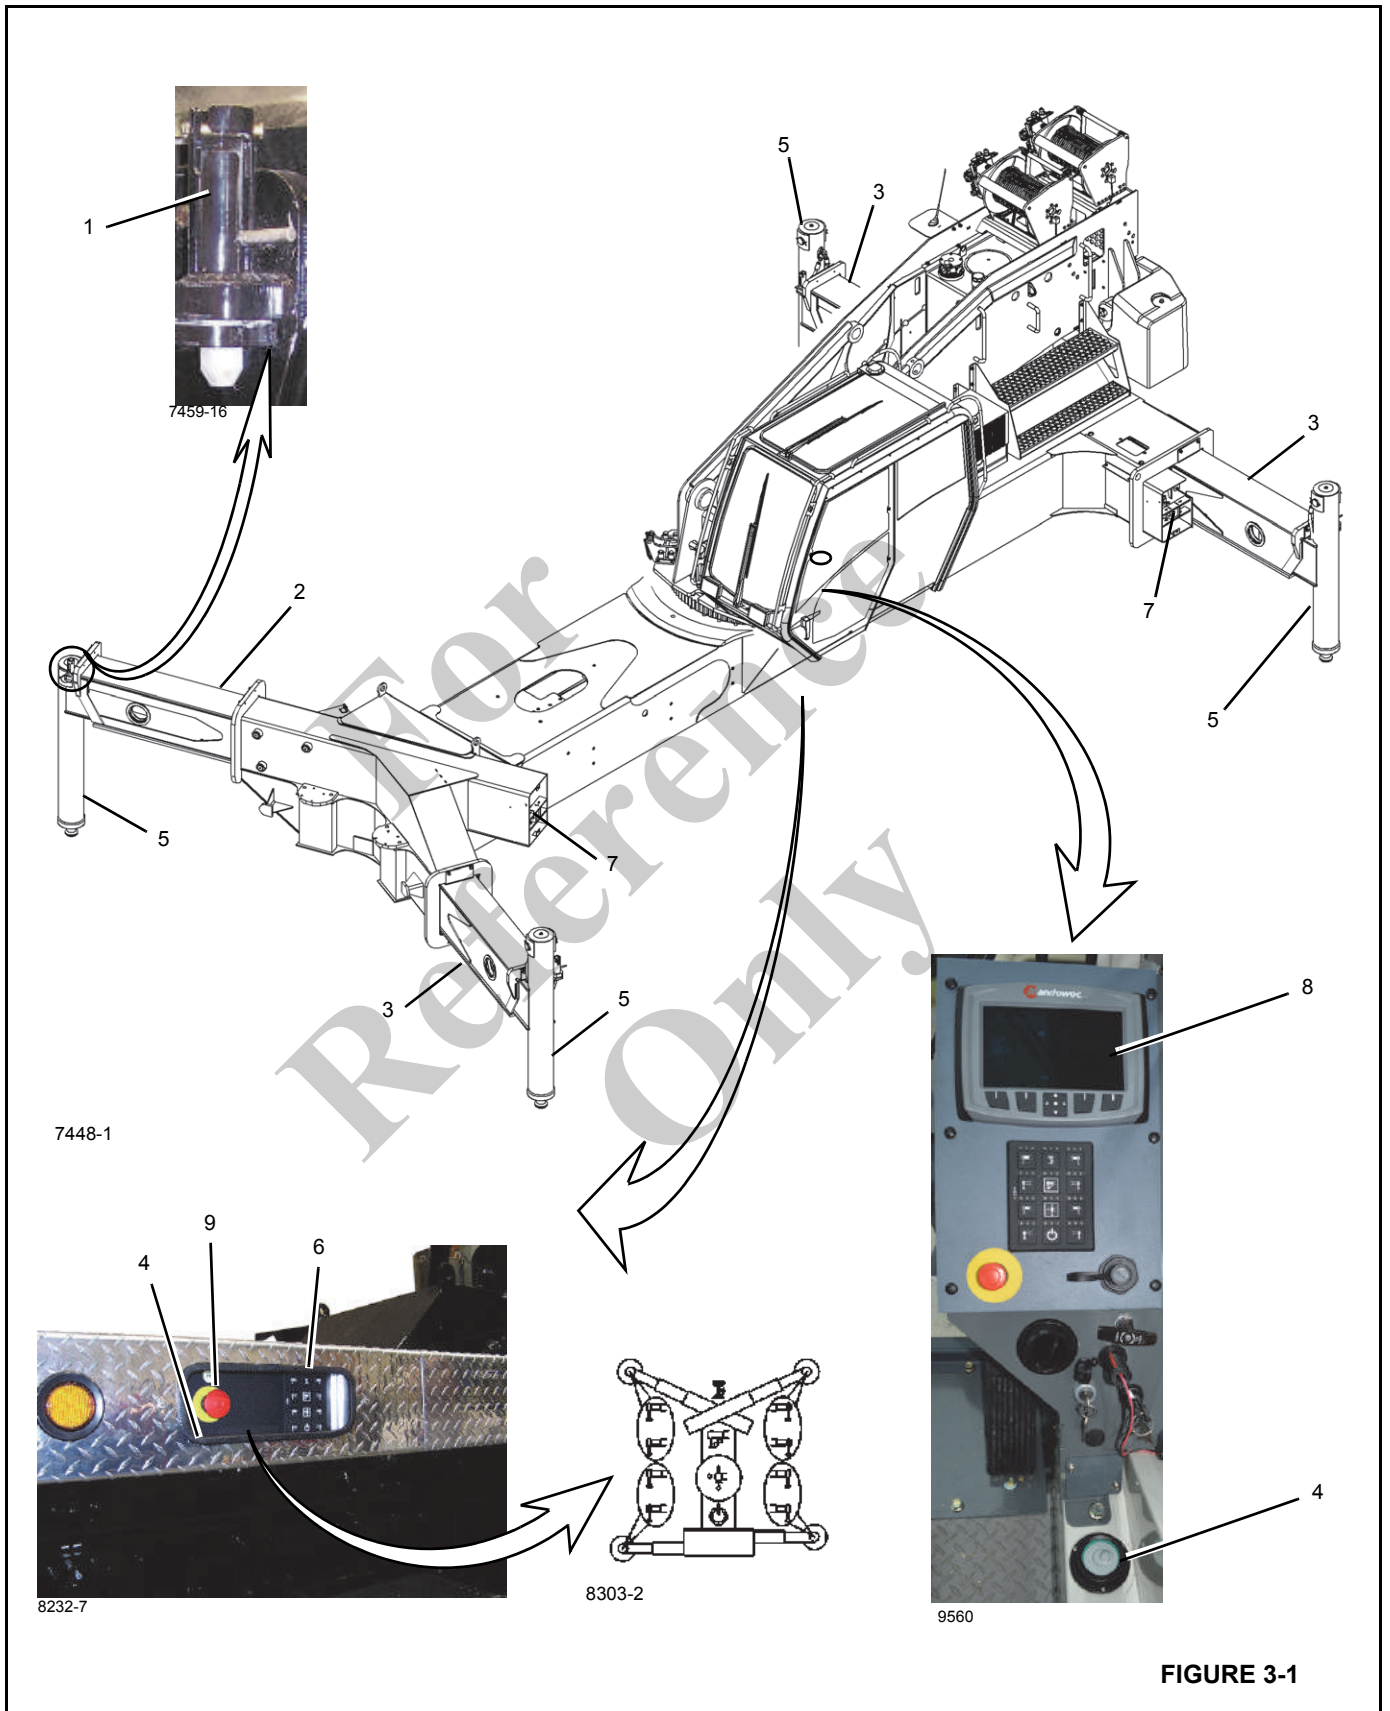
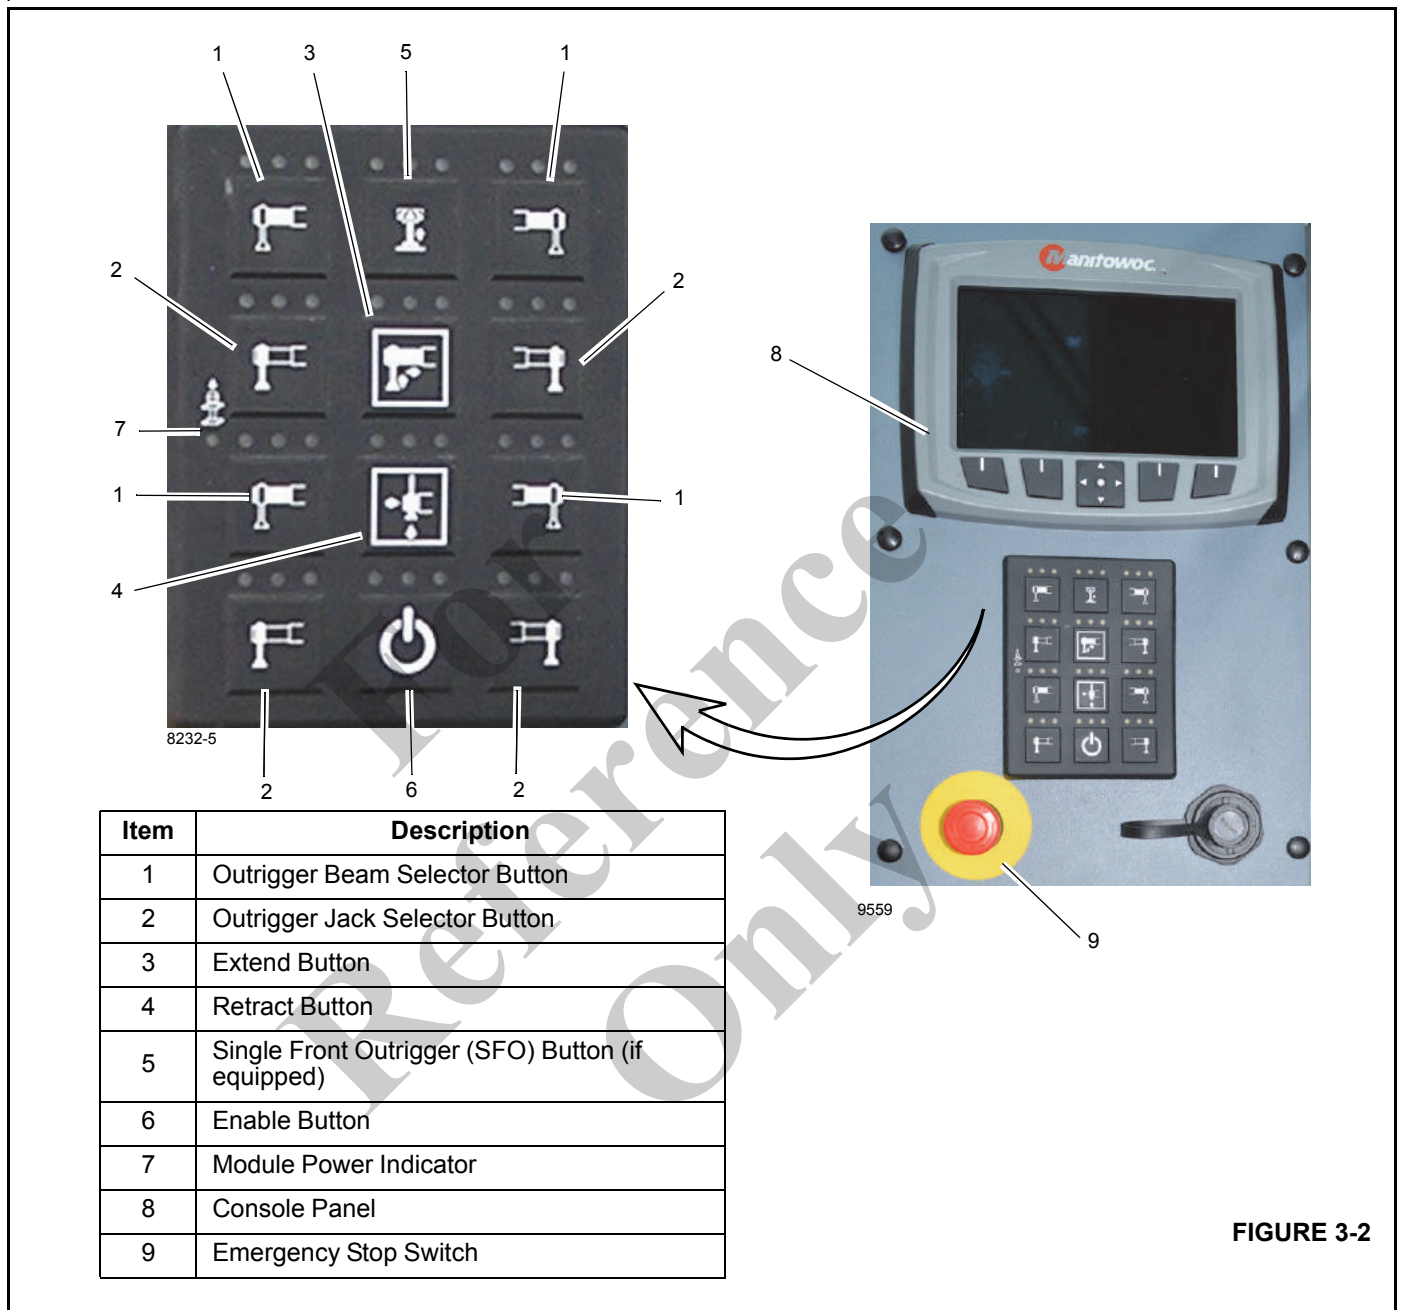

FIGURE 3-1
FIGURE 3-2
The outriggers can be operated from three locations, including a controller located (Figure 3-2) on the crane cab console and two ground station control panels located on the left and right sides of the carrier decking. Each controller contains the control buttons for extending and retracting the outrigger beams, for raising and lowering the outrigger jack cylinders and for raising and lowering the single front outrigger (SFO), if equipped.
The cab outrigger control panel (Figure 3-1) is located on the superstructure cab front console panel (8) and is used to control the outriggers from inside the cab. The control panel contains a touch pad with control buttons and indicators for extending and retracting the outrigger beams, for raising and lowering the outrigger jack cylinders and for raising and lowering the single front outrigger (SFO) - if equipped. The station contains a level indicator and an emergency stop switch. All outrigger functions can be controlled from the cab control panel.
The ground station control panels are located on the left and right sides of the carrier decking (Figure 3-1). Each control station has a touch pad with LED indicators, control buttons for extending and retracting the outrigger beams, for raising and lowering the outrigger jack cylinders and for raising and lowering the single front outrigger (SFO) - if equipped. Each station contains a level indicator and an emergency stop switch.
There is a outrigger control panel located on each side of the crane, as shown in Figure 3-1 and Figure 3-2. The following details apply to both control panels as indicated.
There are four outrigger beam selector buttons (1) located on each outrigger control panel (Figure 3-2).
There are four outrigger jack selector buttons (2) located on each outrigger control panel (Figure 3-2).
The enable button (6) is located on each outrigger control panel (Figure 3-2) and is used in conjunction with the
The extend button (3) is located on the outrigger control panel (Figure 3-2) and is used in conjunction with the enable buttons (6) to control both the outrigger beams or the jacks functions.
The retract button (4) is located on the outrigger control panel (Figure 3-2) and is used in conjunction with the enable buttons (6) to control both the outrigger beams or the jacks functions.
LED indicators display the status of the control button being selected (Figure 3-2) on the outrigger control panel. A LED will illuminate for 5 seconds after a button has been selected.
The module power indicator (7) is located on each outrigger control panel and indicates the outrigger control station panel (Figure 3-2) is activated when a green LED illuminates. The control station can not be activated if the crane is performing another function. (For example: operating the boom.)
The outrigger beam selector buttons (1, Figure 3-2) are used to operate the front or rear outrigger beams. Both sides can be operated from the cab outrigger control panel.
The ground control outrigger beam selector buttons (1, Figure 3-2) are used to operate the front or rear outrigger beam only on the side of the crane the ground control is located.
Use the outrigger jack selector buttons (2, Figure 3-2) to indicate which jack you desire to operate.
The single front outrigger (SFO) button (5, Figure 3-2) is located on the outrigger control panel (if equipped).
There is an emergency stop switch (9, Figure 3-2) located at each outrigger control on each side of the carrier and inside the cab on the front console (9, Figure 3-3). Pressing an emergency stop switch shuts down the engine.
A bubble level indicator (Figure 3-1) is located on the right interior wall of the cab and on each ground station outrigger control panels located on the lower frame decking. The